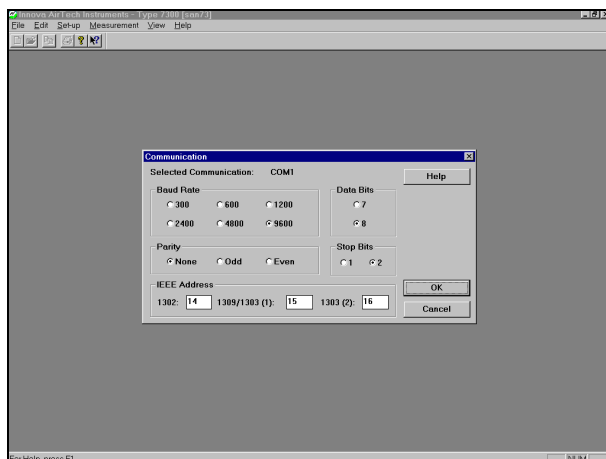

Fig. 4.4 The Communication dialogue
1. Pull down the **Set-up** menu and click on **Communication**. The Communication Set-up dialogue will be displayed, Fig.4.4.
1. Pull down the **Set-up** menu. Click on **Communication**. The Communication Set-up dialogue will be displayed as shown in Fig. 4.4.